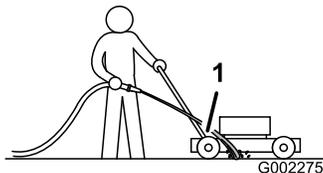

Figure 21
3. Hold the running garden hose at handle level and direct the water to flow on the ground just in front of the right, rear wheel (Figure 21).